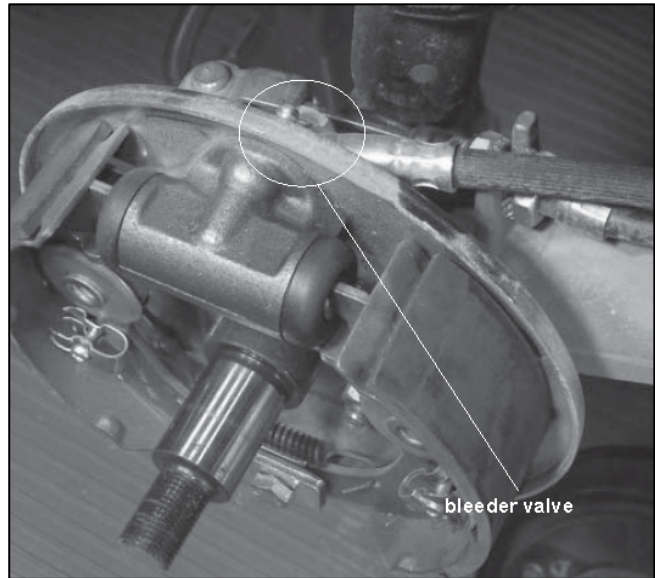

Figure 5-6
1. Install a length of appropriate size plastic tubing over the wheel cylinder bleeder valve located on the back side of the hub assembly (Figure 5-6).
11. Rotate caliper with rotor centered in brake pads and install caliper upper mounting hardware (Figure 5-6).
4. Remove brake caliper mounting hardware and brake caliper (Figure 5-6).
12. Reinstall brake caliper with mounting hardware (Figure 5-6).